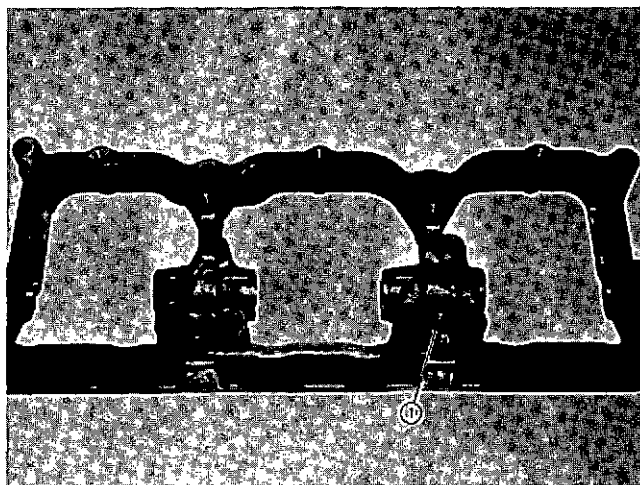

Fig. 3-1-8, V40307. Breather vent hole (top view)
9. On naturally aspirated engines, install breather vent plug to hole (1, Fig. 3-1-8). On turbocharged and Natural Gas engines install 1/8 inch pipe plug in all housings.